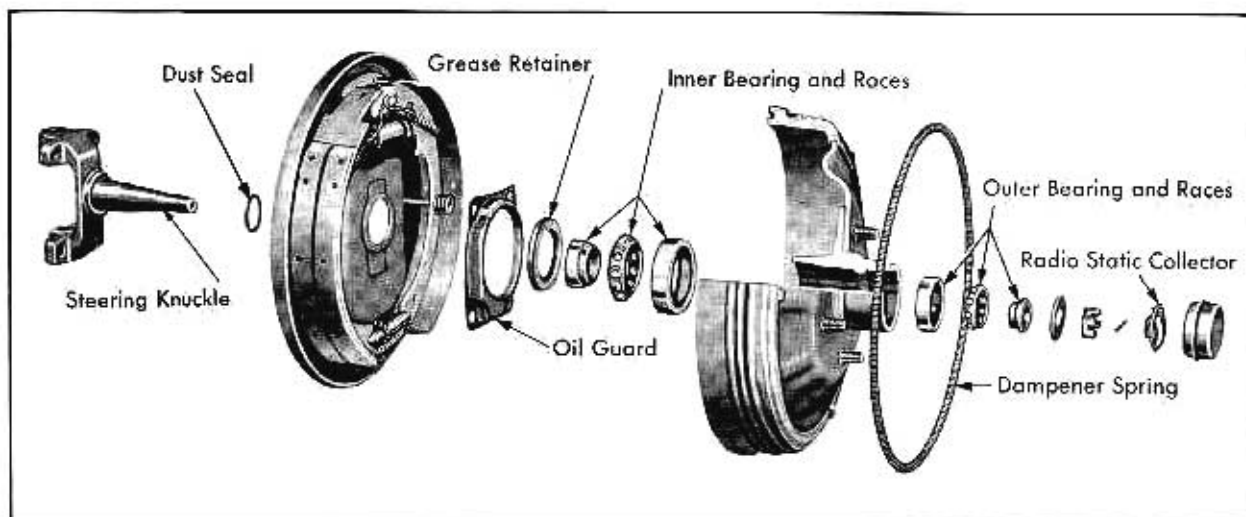

Fig. 6-17 Front Wheel - Disassembled
3. Remove dust cap and take out radio static collector, Fig. 6-17.